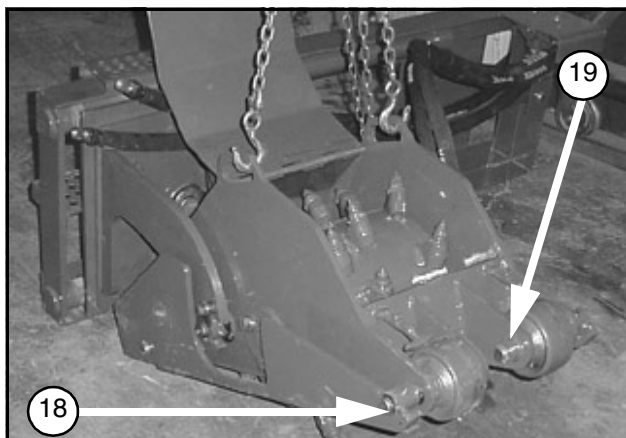

Figure 31.
13. Install the front wheel pins (18) and the snap rings (19) as shown in Figure 31.